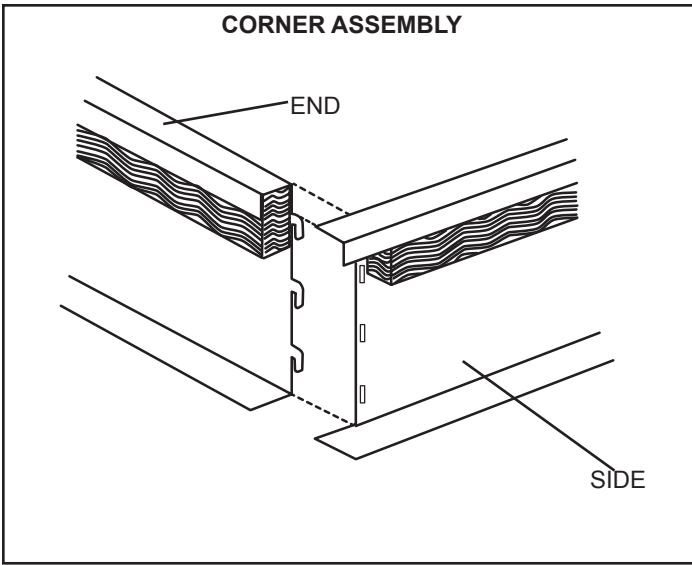
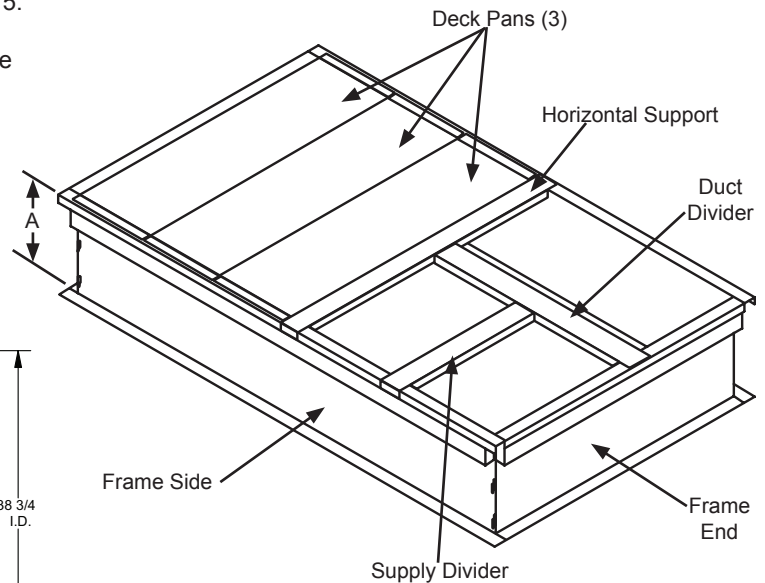

Figure 3
Figure 5
The mounting frame can be installed directly on deck having adequate structural strength, or on roof supports under deck. Check HVAC unit instructions for service clearances. See figure 5 for frame dimensions and location of supply and return air plenums.
The assembled mounting frame is illustrated in figure 5. Refer to individual details for correct assembly procedure. See figure 3 to assemble corners of frames. Assemble frame as illustrated in figure 5.
STEP 1: Bring together (1) frame side and (1) frame end. Insert the tabs on the frame end into the slots on frame side. Press together until tab locks in place. When locked into place curb sides and ends will not come apart. Repeat all (4) corners.
STEP 2: Set (3) deck pans in place on condenser end of curb. Insulation will face up. See figure 5. Bottom of deck pans have cut-out for optional utility connection entry through curb.
STEP 3: Set horizontal support in place. See figure 5.
STEP 4: Set duct divider and supply divider in place. See figure 5.